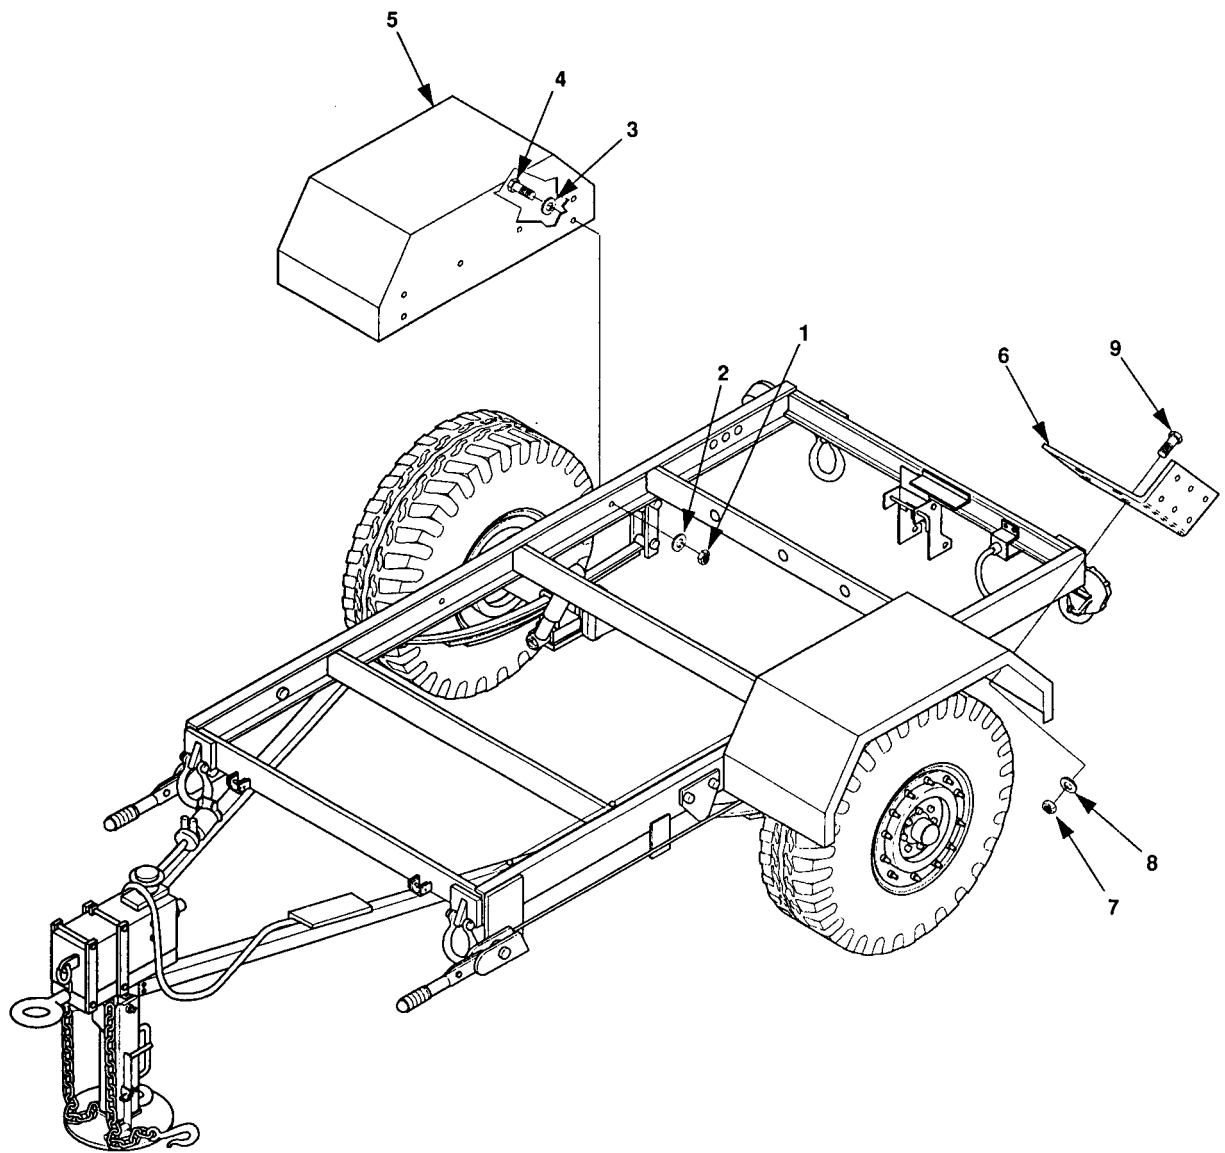

Figure 4-21. Fender Replacement, 1 Ton Trailer.
1. Remove four self-locking nuts (7, figure 4-21), flat washers (8), and bolts (9), and remove bracket.
2. Remove and discard six self-locking nuts (1), flat washers (2 and 3), and bolts (4). Remove fender (5).